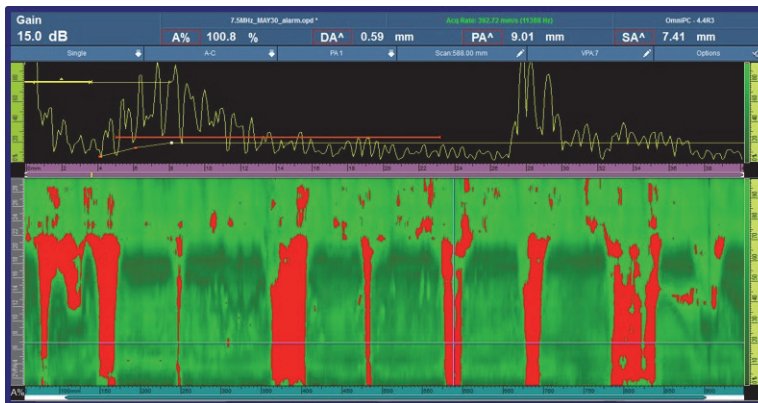

Figure 3-2 OmniScan display example
3. Examine the C-scan displayed on the OmniScan instrument. Lack of adhesive is represented in red (see Figure 3-2 on page 28).